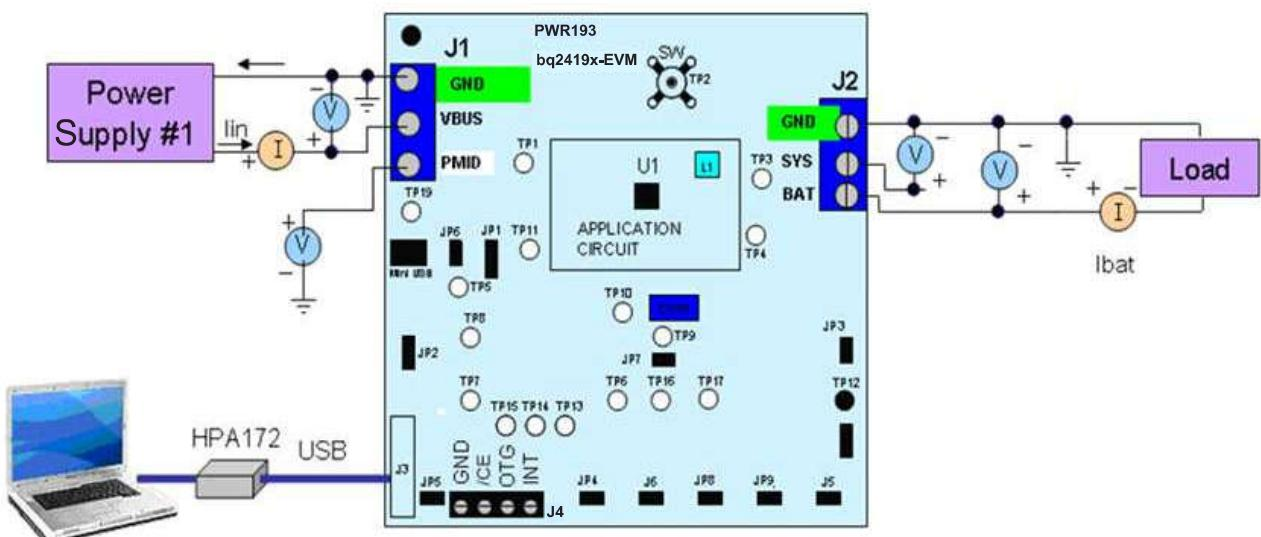

Figure 2. Original Test Setup for PWR193 (bq24195/L EVM)
4. Turn on the Load, set to constant voltage mode and output to 2.5 V. Turn off (disable) Load. Connect Load in series with a current meter (multimeter), ground side, to J2 (BAT+ and GND) as shown in Figure 2.
- Figure 2 shows the test setup for PWR193.